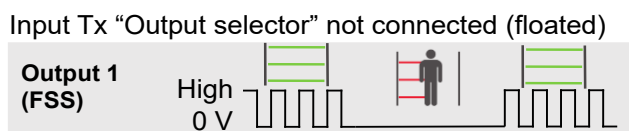

Figure 19: Principal timing diagram for the FSS output
The default logic is Light ON (LO) (Figure 19). When an object enters the safeguarded area (OBJECT DETECTED), the FSS output switches to LOW/GND (0 V). When the object leaves the safeguarded area (NO OBJECT) the frequency starts again.